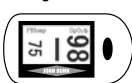

Figure 7
- Press the Power/Display Button once more; the screen will rotate 90° and display as shown in Figure 7.